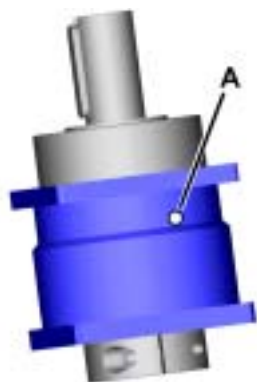

Fig. 5.1
Gear reducers from the SP⁺180 size upwards have support bores (A) for ring screws (e.g. according to DIN 580) in the gear unit housing (Fig. 5.1).